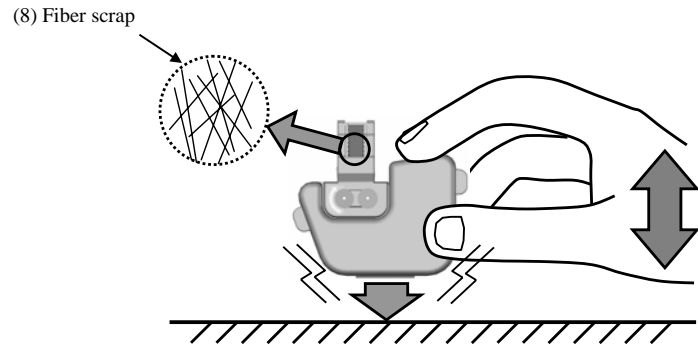

Fig.6-5
If the fiber scrap (8) is stuck, remove the large fiber scrap container box (6) and tap it gently (Fig.6-5).